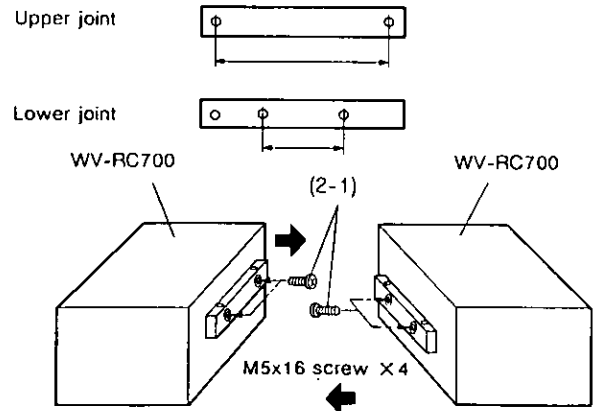

Fig. 2
- 2-1. Fix two RCU Jointing Bars (163) on the side of Remote Control Units by using four screws (M5 × 16, provided) as shown in Fig.2.